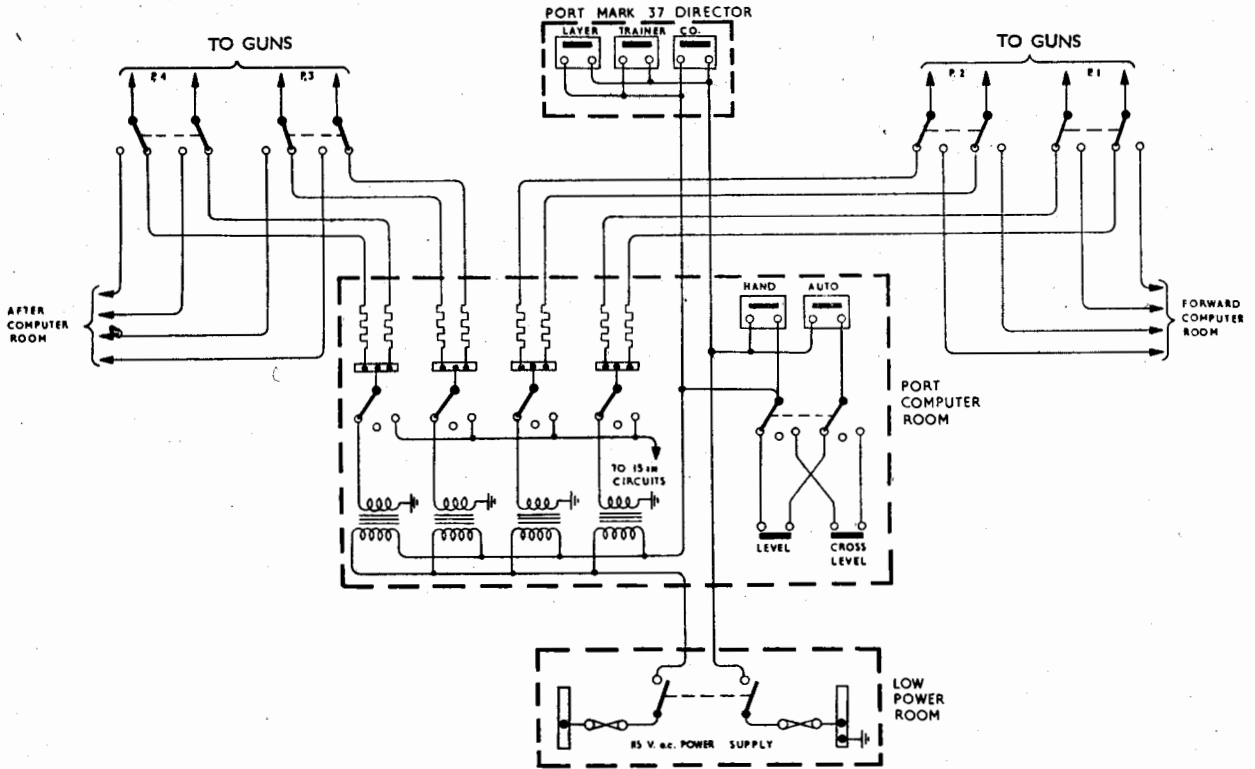

Fig. 2. 5-25-in. Director firing circuits—H.M.S. VANGUARD
2. Since the director firing circuits are similar for each director, only the port director and the mountings associated with it will be discussed here. The port director firing circuits are shown in Fig. 2; these are fundamentally the same as those shown for a "Battle" Class destroyer in Fig. 2 of the section on 4·5-in. TWIN MARK 4 MOUNTING. The testing of the common lead and the branch leads should be carried out as described in paras. 18-30 of that section.